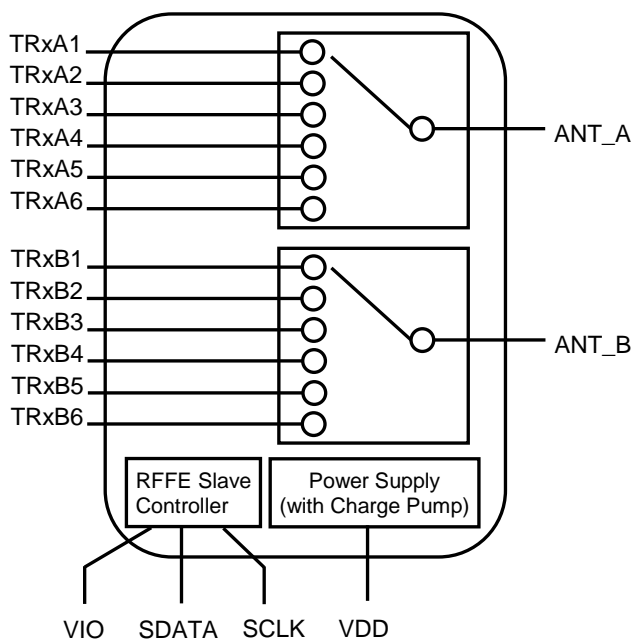

Figure 1. RFASWR681CTF03 Block Diagram
- The functional block diagram is shown in Figure 1. The pin assignment and package are shown in Figure 2. Signal pin assignments and functional pin descriptions are provided in Table 1.